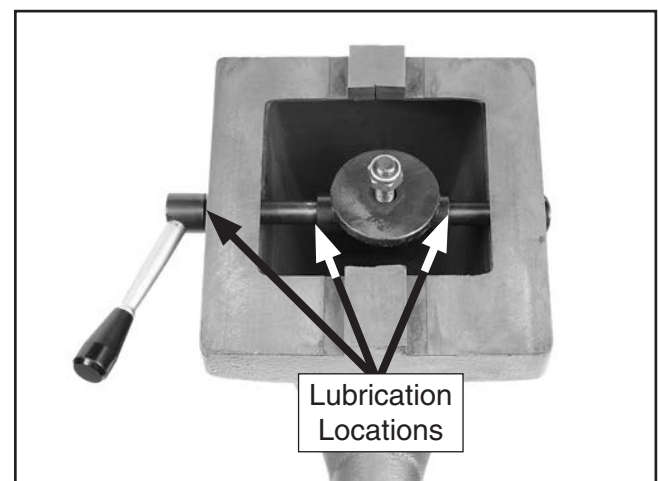

Figure 51. Locations to lubricate tailstock.
3. Place a couple drops of light machine oil at each of the locations shown in **Figure 51**.